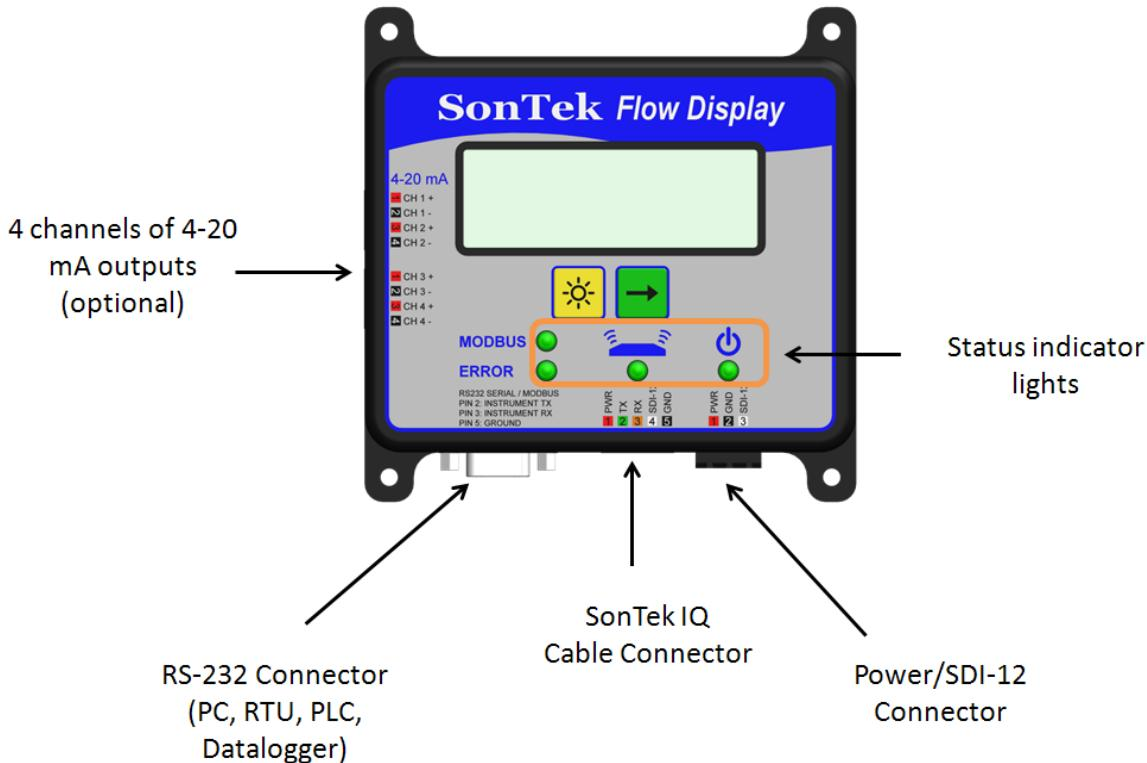

Figure D1. SonTek-IQ Flow Display with Analog Outputs
- The analog output display that includes four channels of 4-20 mA output (Figure D1).